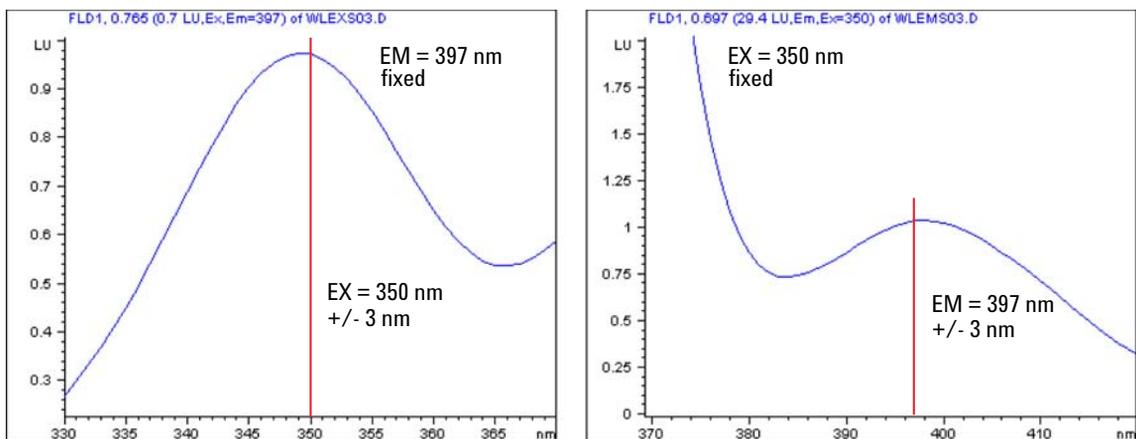

Figure 64 Excitation and Emission Spectrum (expected results)
As result, the maxima should be found at 350 nm \pm 3 nm, see Figure 64 on page 171.
As result, the maxima should be found at 397 nm \pm 3 nm, see Figure 64 on page 171.
- 4 Open the Online Spectra plot and observe the maximum as shown in Figure 64 on page 171 (left).
- 6 Open the Online Spectra plot and observe the maximum as shown in Figure 64 on page 171 (right).